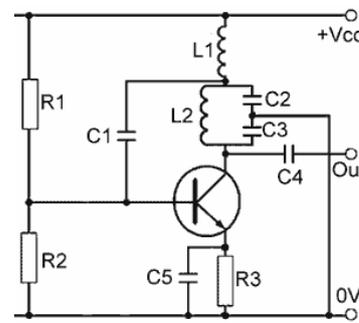

Fig. 2.6.4
8. Refer to Fig. 2.6.4. What is the purpose of L1?